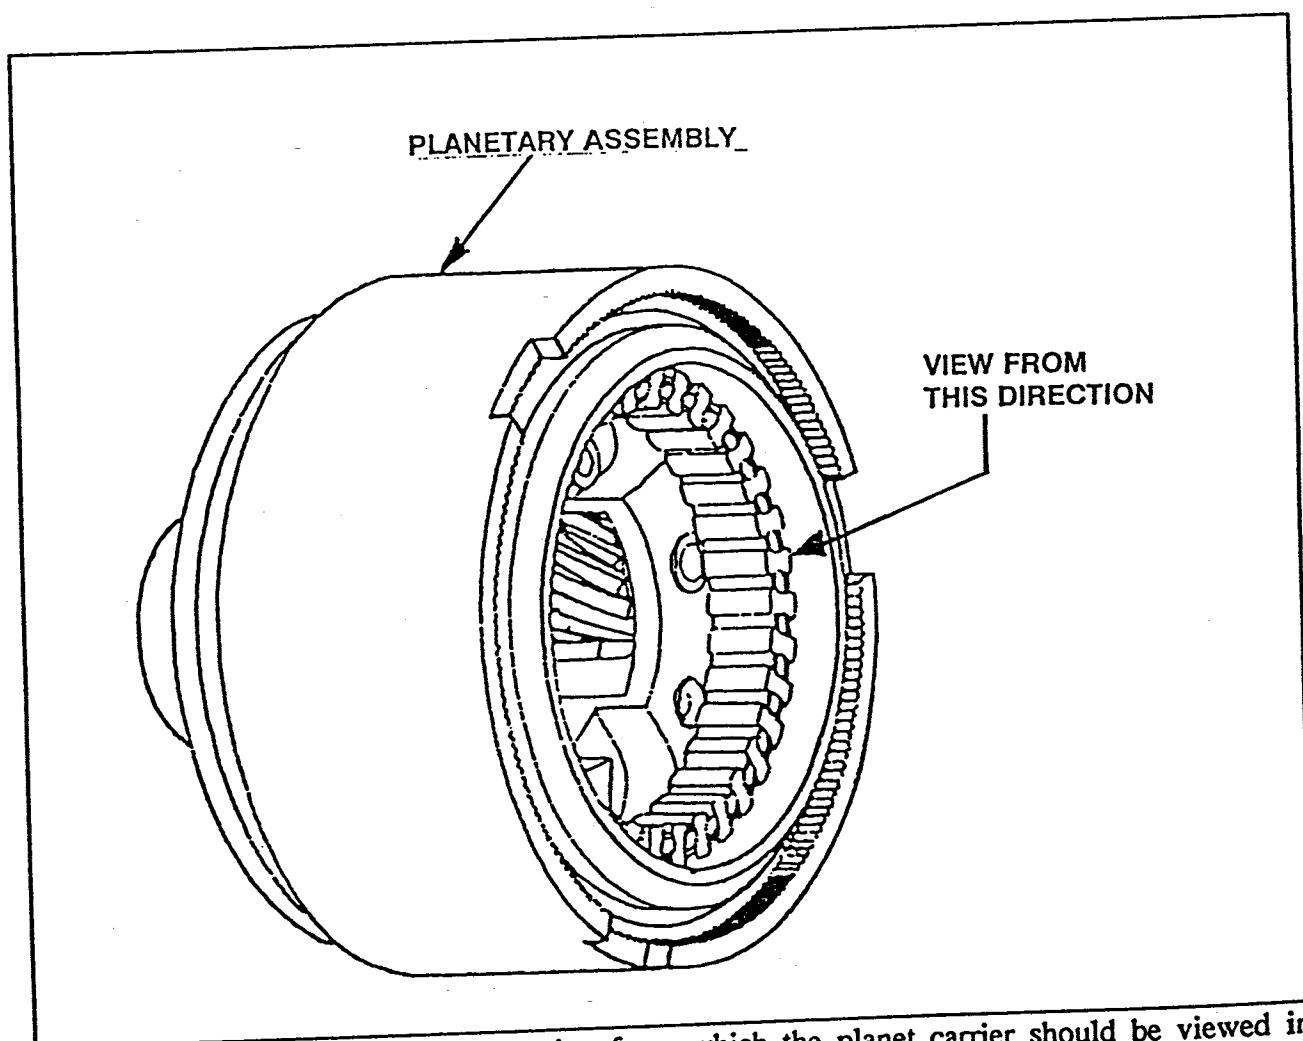

Figure 7 : Sketch showing the direction from which the planet carrier should be viewed in order to see the identification grooves on the long pinion.
- e. Planet carrier assemblies featuring the new long and short pinions can be identified by viewing the groove on the long pinion from the open end of the carrier assembly. Refer to Figure 7.